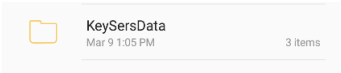

Figure 46: Keyser’s Data App folder titled “KeySersData”
3. Find the Keyser’s Data App Folder or folder specified in app settings, shown in Figure 46